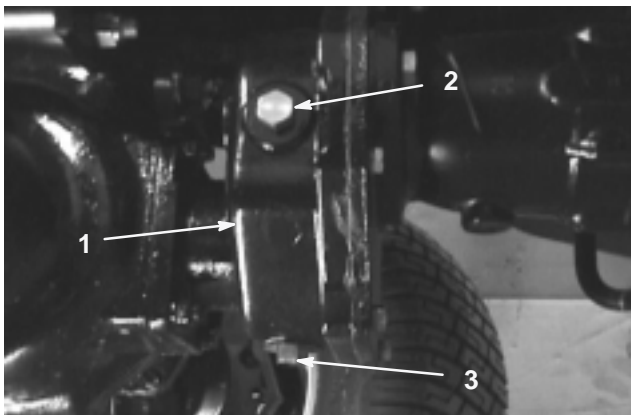

Figure 9
2. Remove check/fill plug from clutch housing (Fig. 9) and make sure lubricant is up to bottom of hole. If level is low, add enough lubricant to bring the level up to the bottom of the check/fill plug hole.